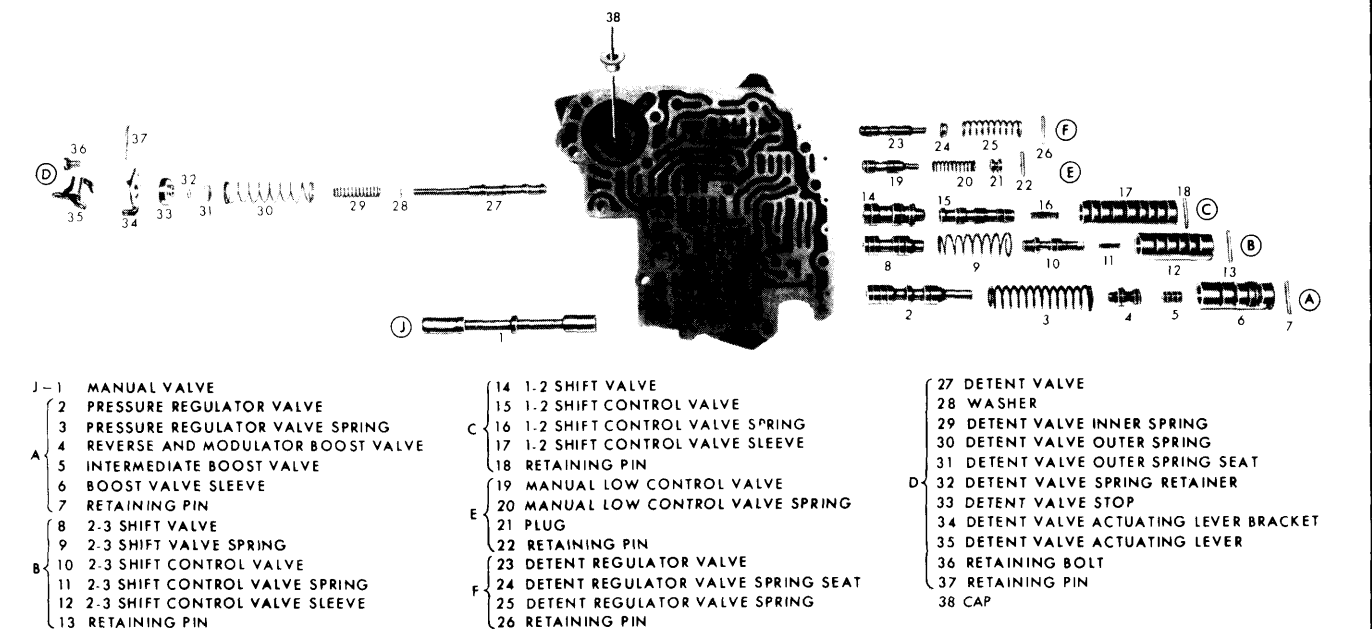

Fig. 7-58—Valve Body Exploded View
### VALVE BODY (Fig. 7-58)
1. Position valve body assembly with cored face up and direct clutch accumulator piston pocket positioned as shown in Fig. 7-58.